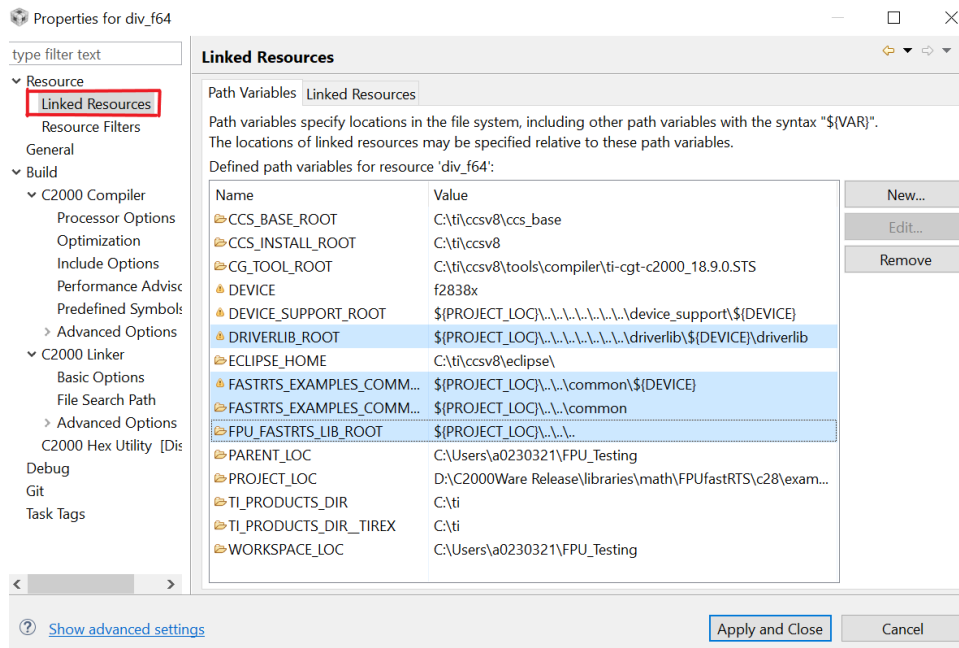

Figure 4.4: Creating a new build variable
1. Go to the **Project Properties->Resources->Linked Resources->Path Variables Tab** and add a new variable (see Figure 4.4), **FPU_FASTRTS_LIB_ROOT**, and set its path to the root directory of the floating point Fast Runtime Support library in c2000ware; this is usually the **c28** folder.